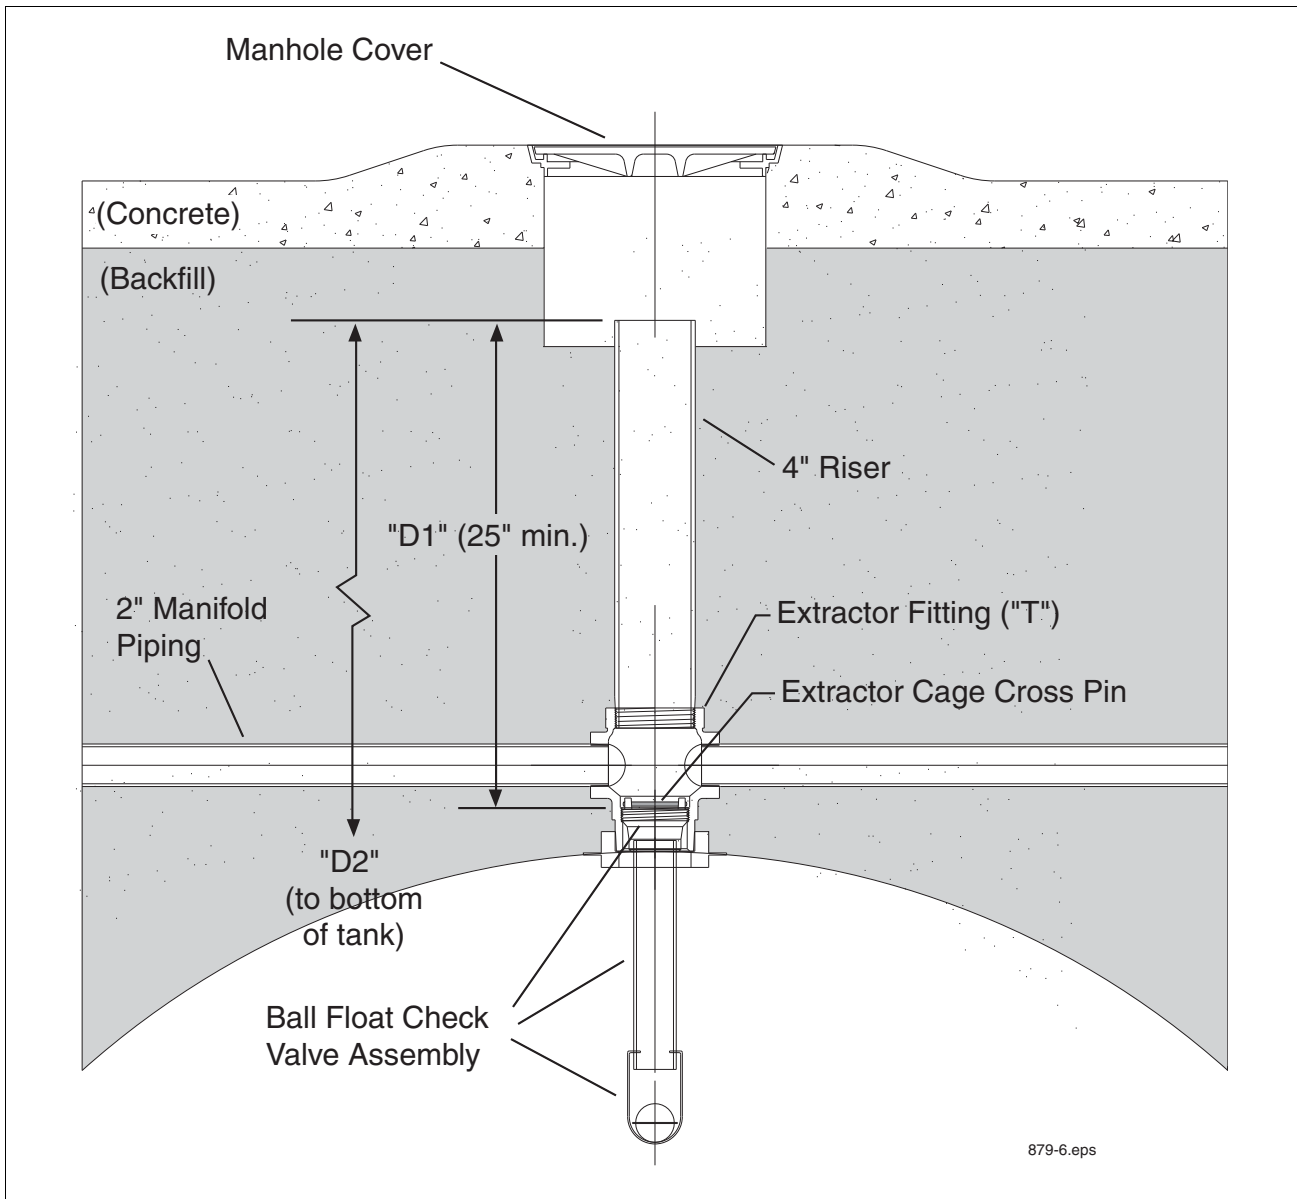

Figure 7. Determining Mag Probe Length For Installation In A Vapor Extractor Riser
1. Measure the distance from the top of the riser to the Extractor Cage Cross Pin (see Figure 7). Record this distance as "D1" (Important - Dimension "D1" must be at least 25 inches).
2. Use the extractor wrench tool (OPW Part Number: 89-0044) to remove the Ball Float Check Valve and Extractor Cage inside the bottom of the 4" riser (ref. Figure 7 on page 14). Important! - Ball Float Check Valve and Extractor Cage may be difficult to remove; **use caution**.